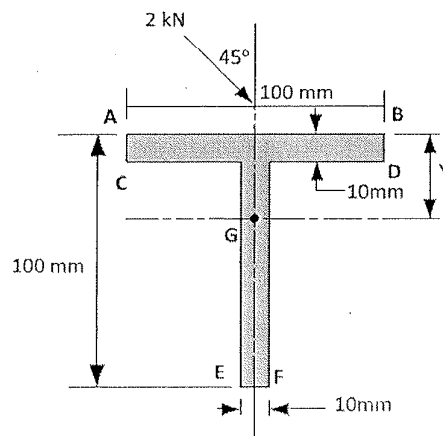

Figure Q4
- (b) A cantilever beam having a T - Section with dimensions as shown in Figure Q4 is subjected to a point load of 2 kN acting at an angle of 45° to the vertical at the free end. The length of the cantilever is 1 m.